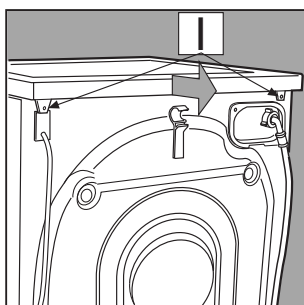

Fig. 3
- 2. Remove the covering lid by unscrewing the two screws I, and then pull it towards you [fig. 3].**